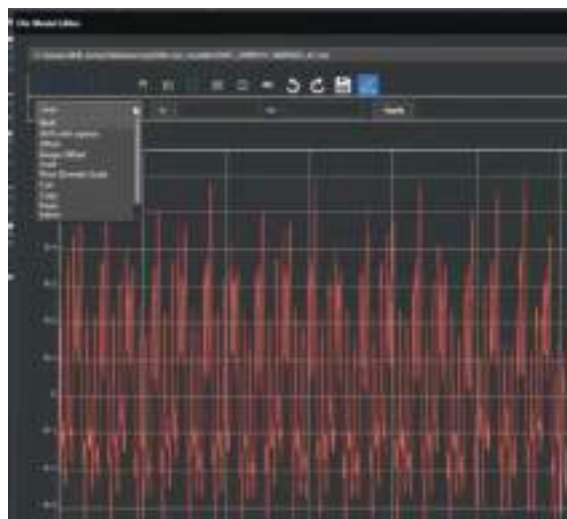

Figure 27: Drop-down menu for manipulating the current profile
- ▶ The die model editor enables users to edit and modify a current profile that is provided. It can be scaled, shifted, cut and pasted, and merged (Figure 27). This is a great way to edit and manipulate a PWL.